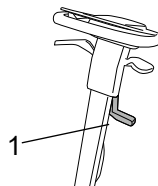

Fig.5
- Raise the squeegee by operating the lever (fig. 5, ref. 1).